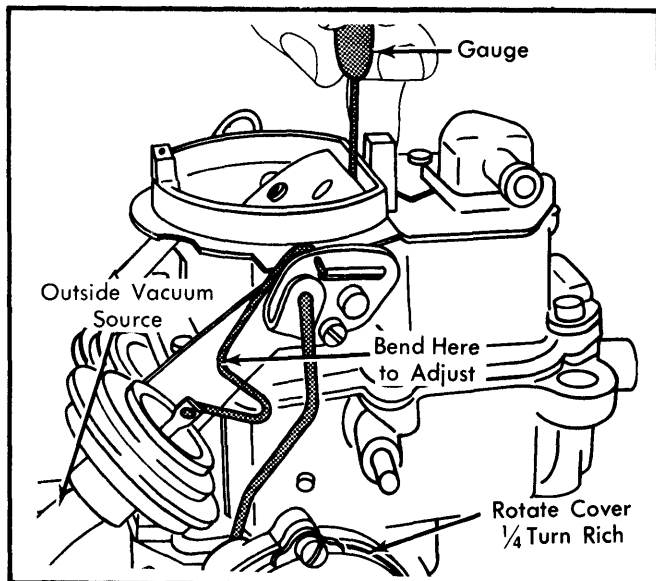

Fig. 6 Adjusting Choke Diaphragm (Initial Choke Valve Clearance)
1) Rotate choke coil cover 1/4 turn in rich direction. Using an outside vacuum source, apply at least 19 in. Hg vacuum to diaphragm assembly on carburetor. See Fig. 6.